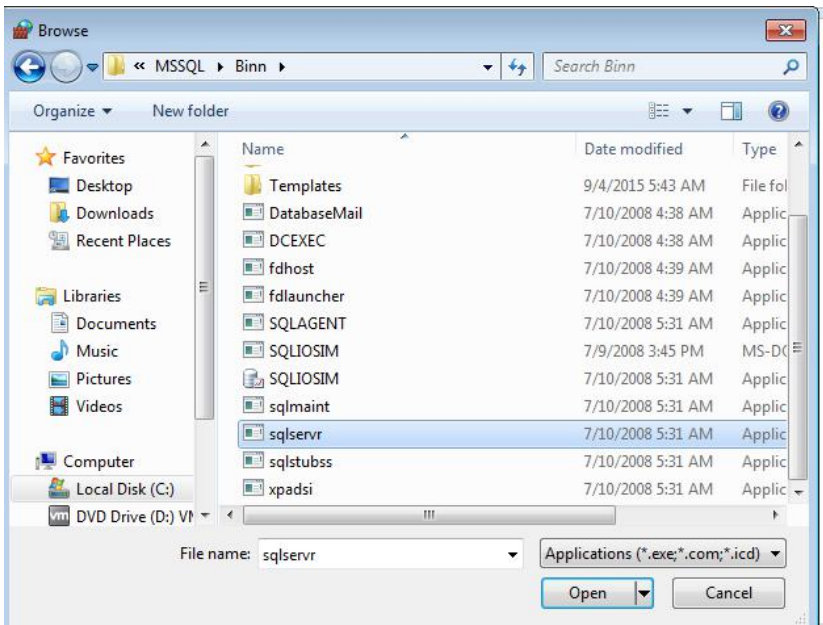

Fig.1.24 Binn
(11) Double-click “sqlservr” (see Fig.1.24).